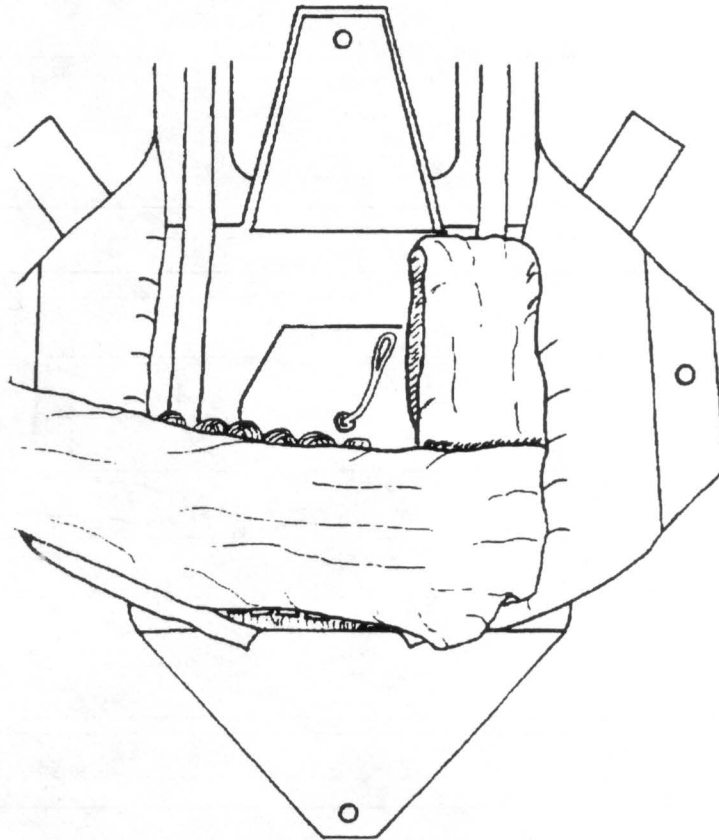

FIG. 5
- 6) Fold the canopy up and down the right side of the container, then make a fold across the bottom of the container, on top of the diaper or skirt (FIG. 5).